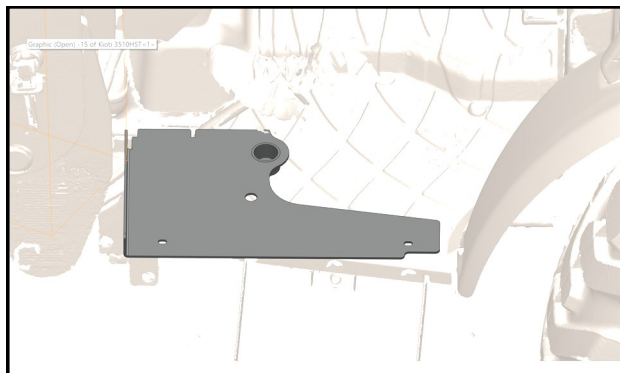

Fig. 2.1 (Floorboard Mounts)
- 2.1 Remove, and save for reuse, the OEM nut and lock washer from the large hole in the left tractor floorboard where the plug was removed in step 1.4, using an impact gun. Place the tube on the underside of the left cab floorboard mount into the hole, over the stud, and secure with the same OEM nut and lock washer. See Figure 2.1.